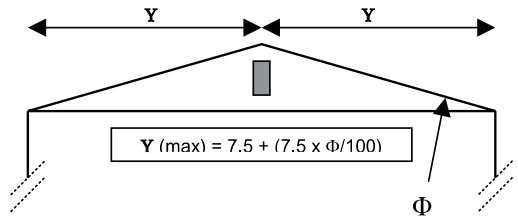

FIG. 4
When a Detector is positioned in the apex of a ceiling (See Fig.4), the lateral beam distance covered (Y) can be increased in relation to the angle of the pitch (Φ), to a maximum pitch of 25°.